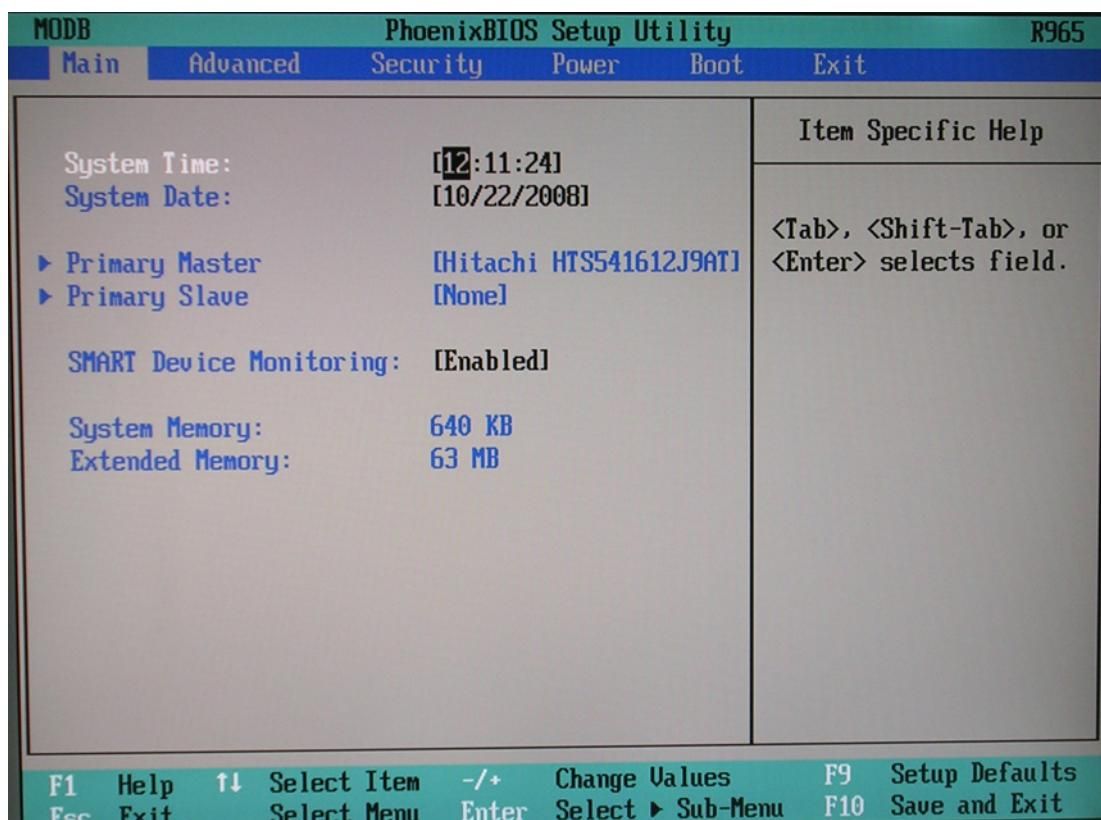

Figure 8-55 BIOS Main Tab
- 1.) From the BIOS main menu (see Figure 8-55), select the <Advanced> menu and press <Enter>.